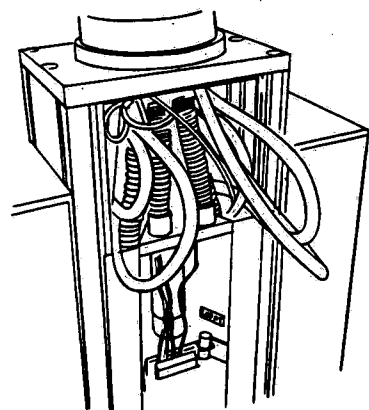

Figure 6-16. Support Head Assembly - Front View Showing Gas Lines Protruding
**NOTE:** The front (platform side) of the support head assembly should now resemble Figure 6-16 with the excess length of lines protruding from the opening above the condenser jacket.